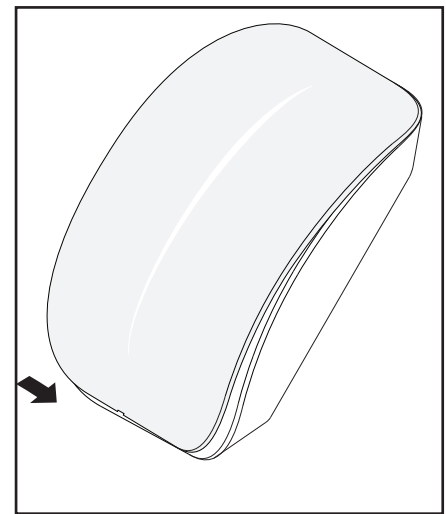

Figure 4: Installing the Top Housing
2. Remove the backing from the tape and place the housing in the desired location on the wall with the cover slot toward the bottom. See Figure 4.
4. Align the top cover snap with the base and snap the bottom of the cover in place. See Figure 4.